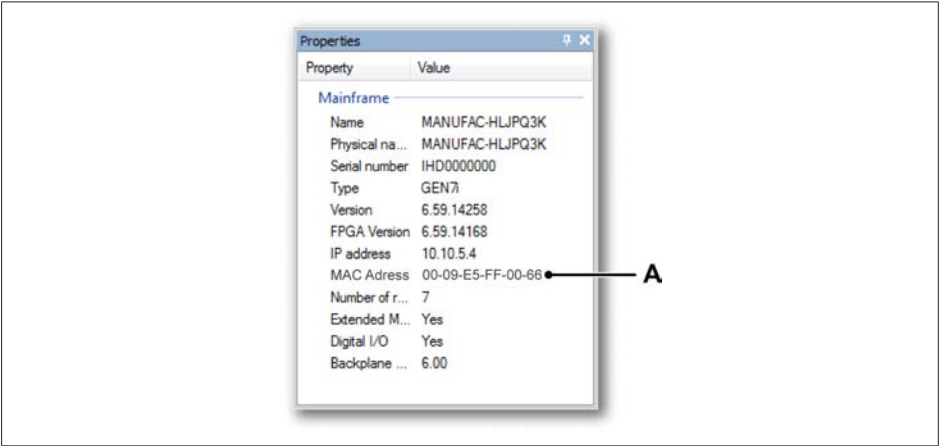

Fig. H.5 Properties window in Perception
3. Enable the **Properties Window** (see Fig. H.5); this can be found in the Perception "Windows" menu.